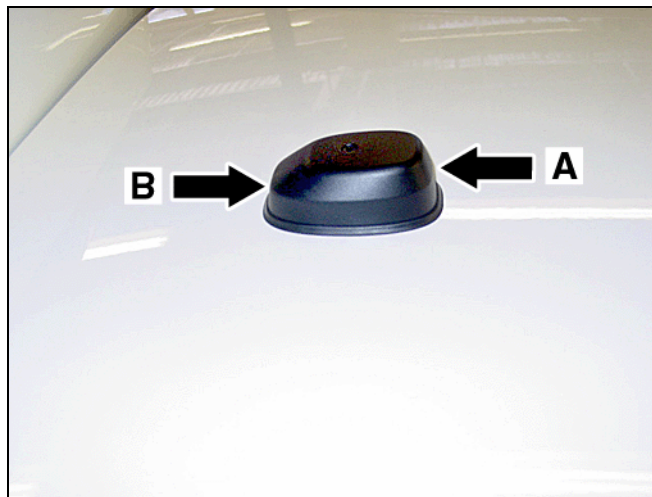

Figure 6
7. Align the SDARS antenna straight with the vertical end (A, Figure 6) facing the vehicle front and the beveled end (B, Figure 6) facing the vehicle rear.